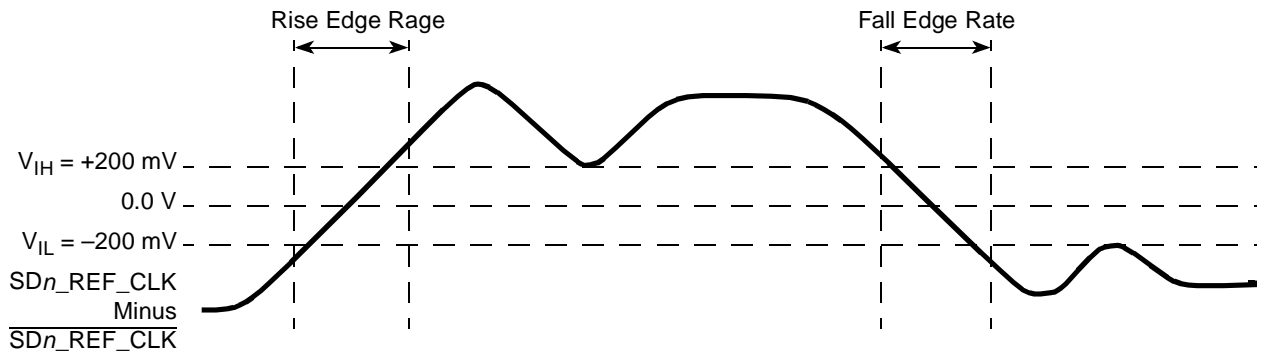

Figure 31. Differential Measurement Points for Rise and Fall Time
The differential waveform is constructed by subtracting the inverting signal (\overline{TXn} , for example) from the non-inverting signal (TXn , for example) within a differential pair. There is only one signal trace curve in a differential waveform. The voltage represented in the differential waveform is not referenced to ground. Refer to Figure 31 as an example for differential waveform.
3. Measured from -200 to $+200$ mV on the differential waveform (derived from $\overline{SDn_REF_CLK}$ minus $\overline{SDn_REF_CLK}$). The signal must be monotonic through the measurement region for rise and fall time. The 400 mV measurement window is centered on the differential zero crossing. See Figure 31.